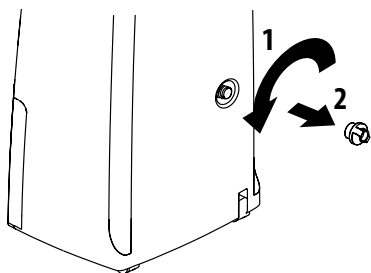

fig.2
1. Remove the cap by turning it anticlockwise (fig. 2).